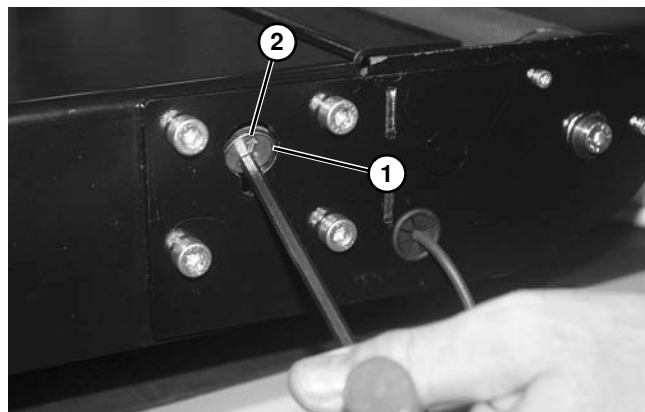

Figure 189
3. Remove tracking cam (Figure 189, item 1) by rotating so that the arrow (Figure 189, item 2) is facing directly up, and remove from conveyor.